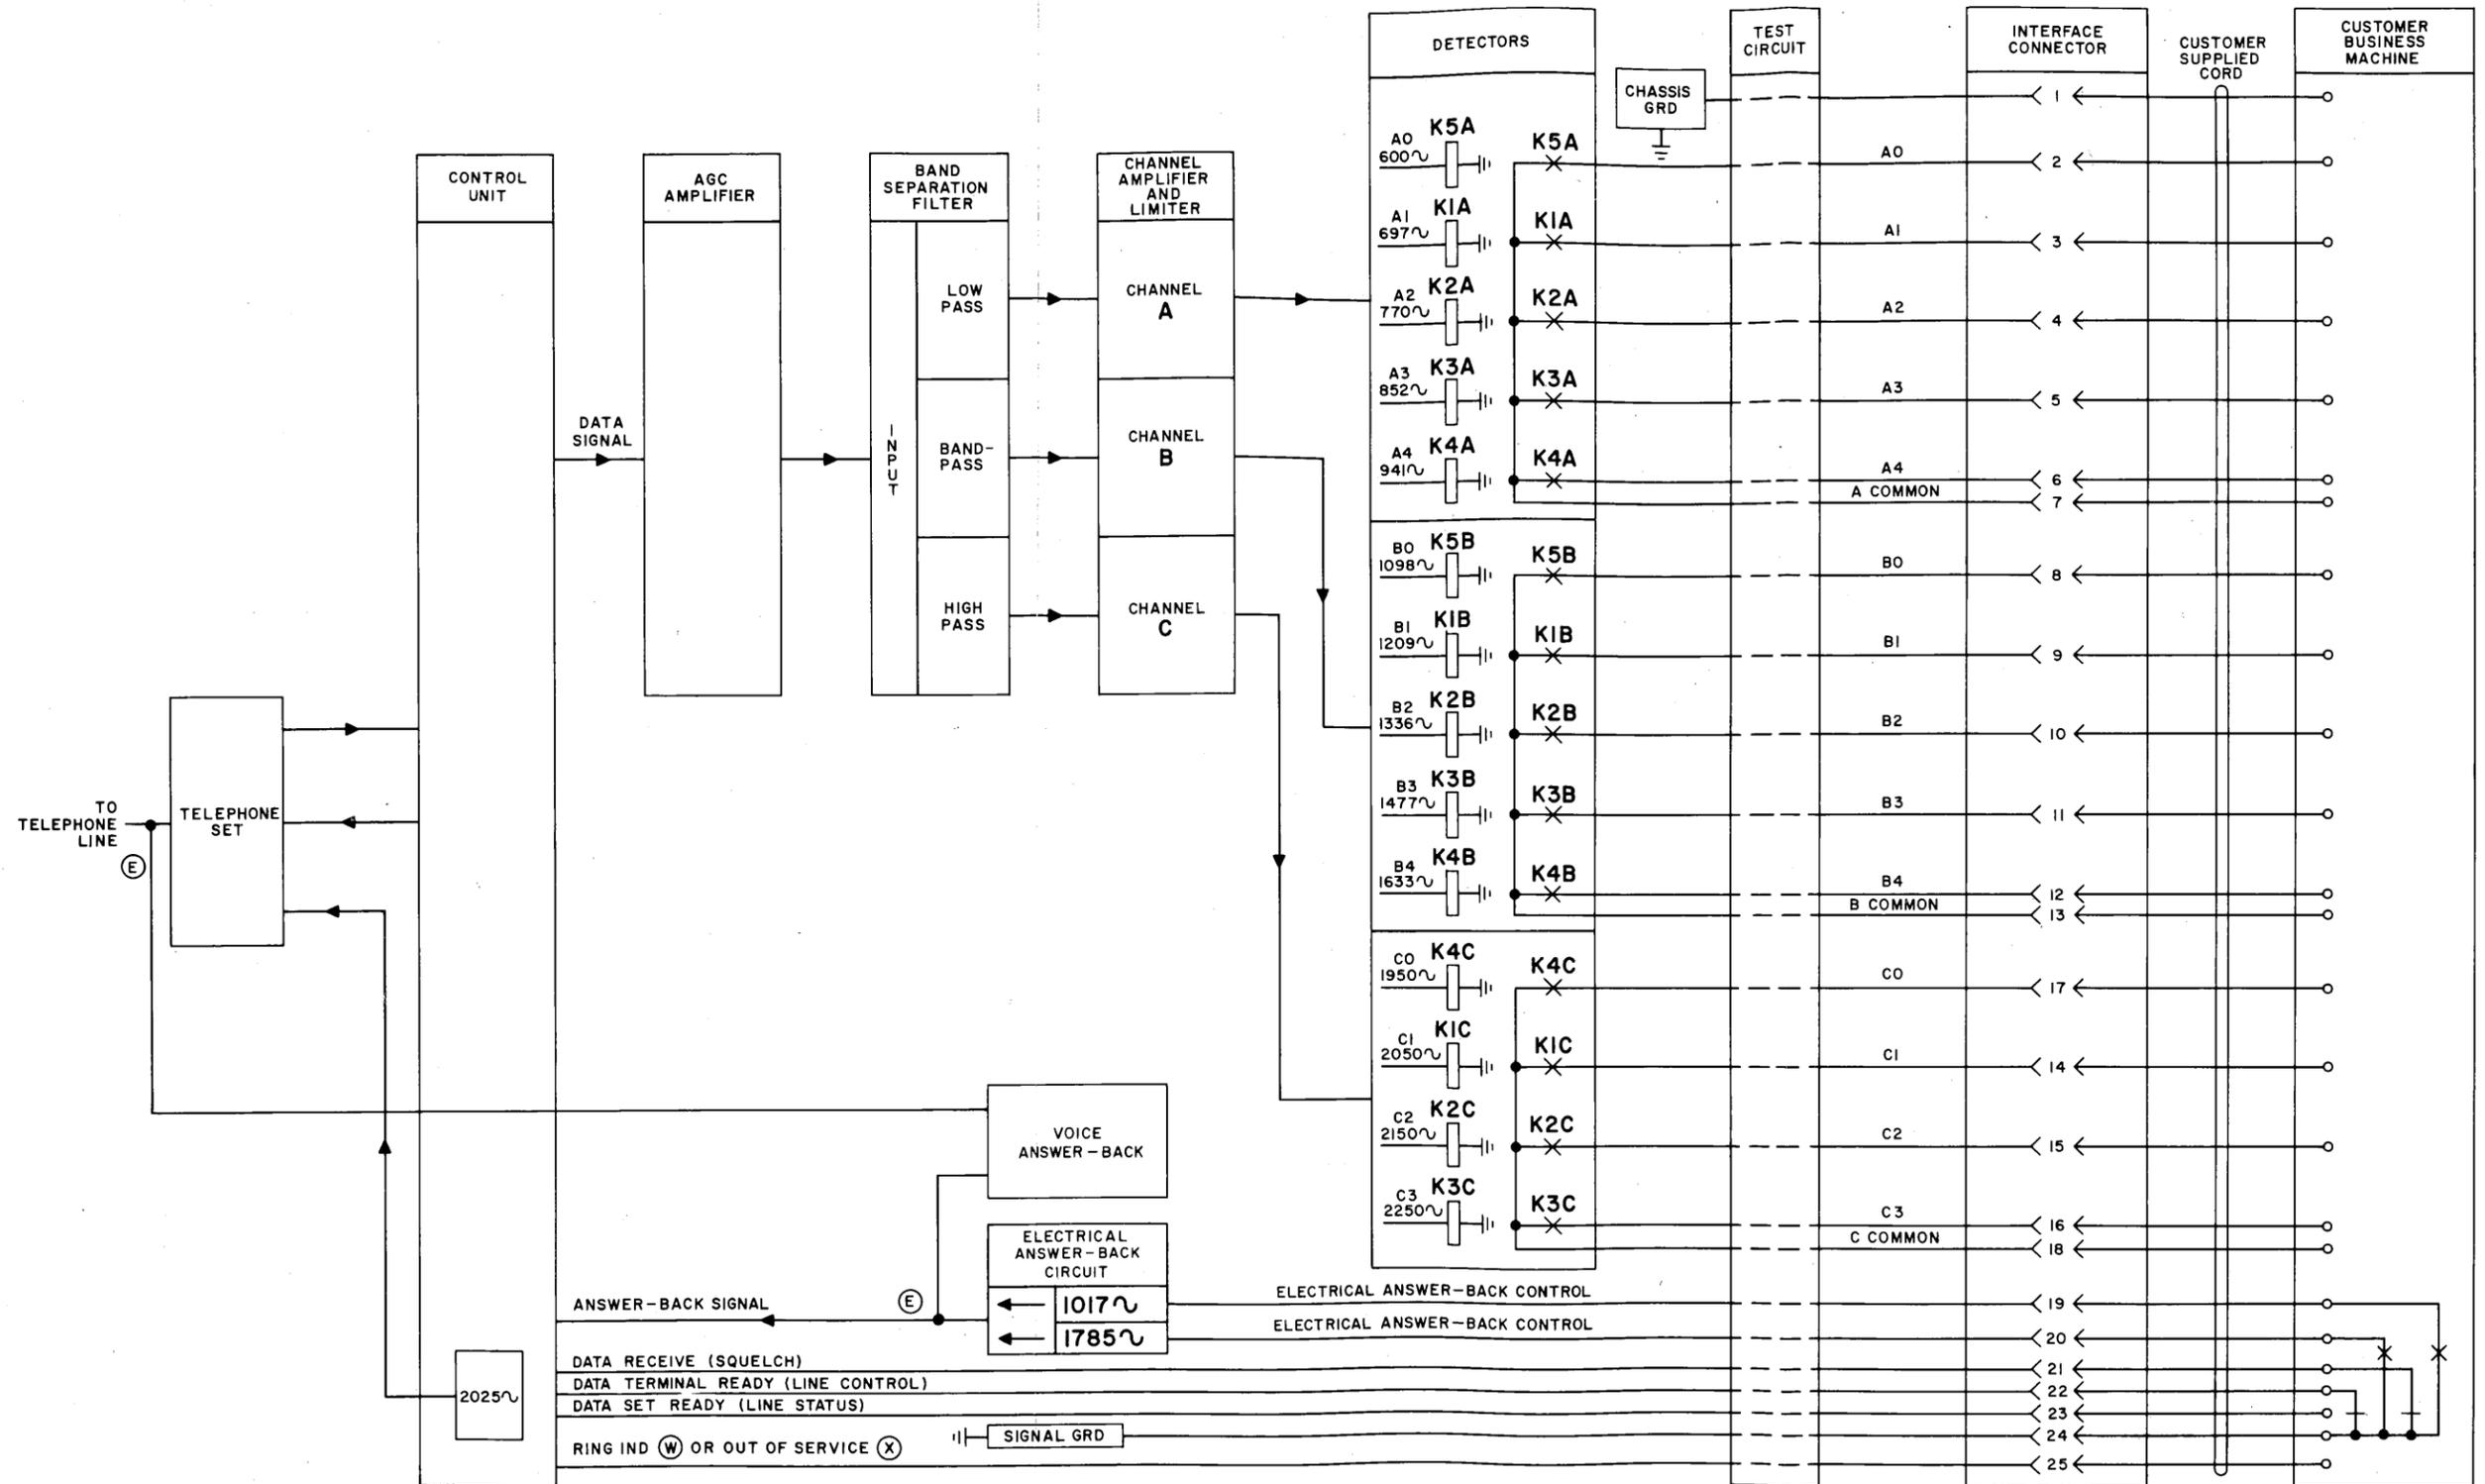

Fig. 8—Data Set 401J-Type, Block Diagram
2.14 A block diagram of Data Set 401J-type operating arrangement is shown in Fig. 8.